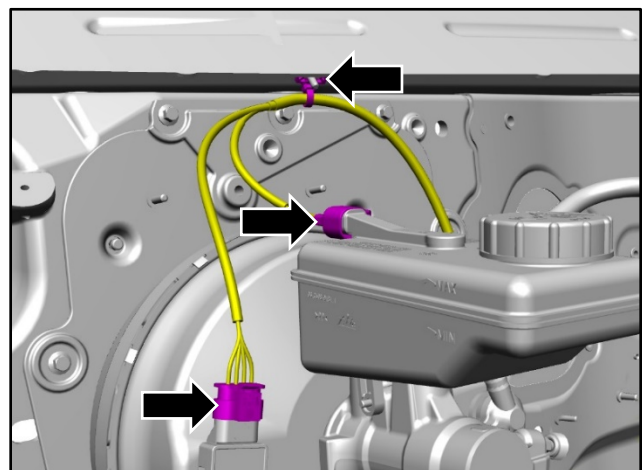

Figure 35
5. Connect the two electrical connectors and install the clip for the wiring harness (refer to Figure 35).